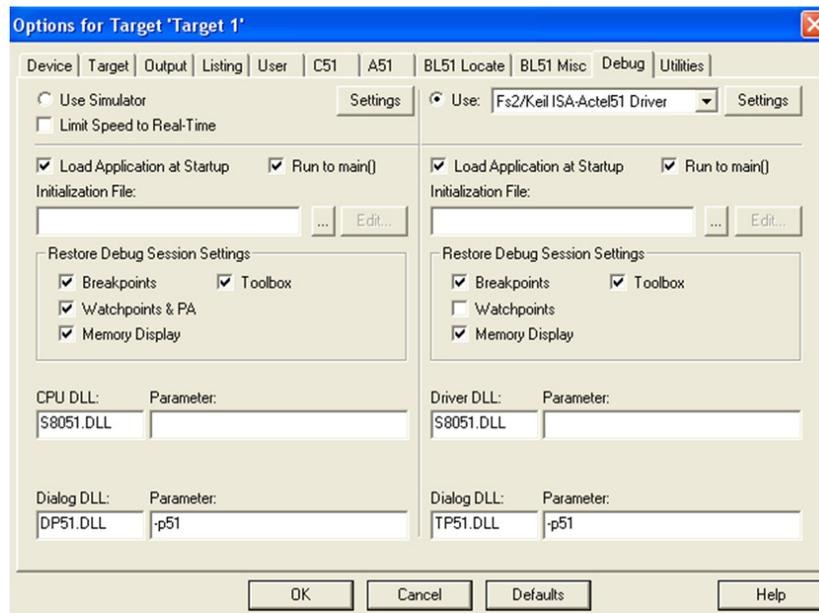

Figure 8 • Debug Settings
- Step 12: Click the **Debug** tab and make sure the debug setting is as shown in Figure 8.